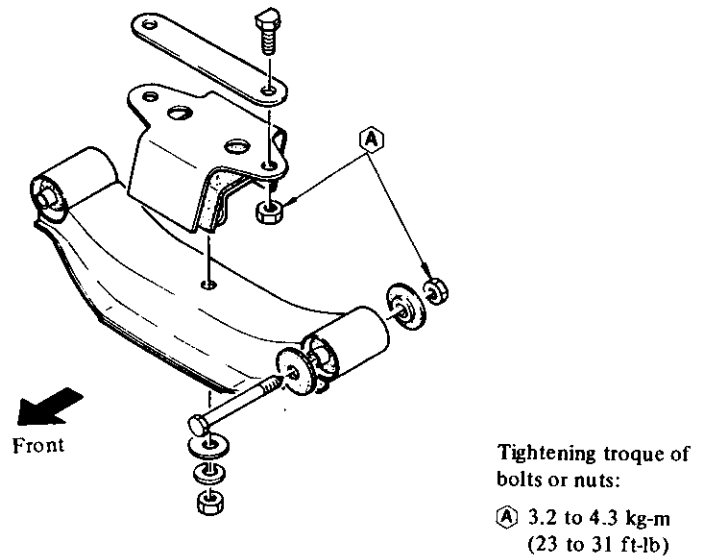

Fig. ER-19 Rear engine mounting and rear insulator
1. Tighten nuts and bolts correctly and securely. As for tightening torque, see Figure ER-19.
2. Carefully arrange the front and rear directions of rear engine mounting member and insulator when installing. See Figure ER-19.